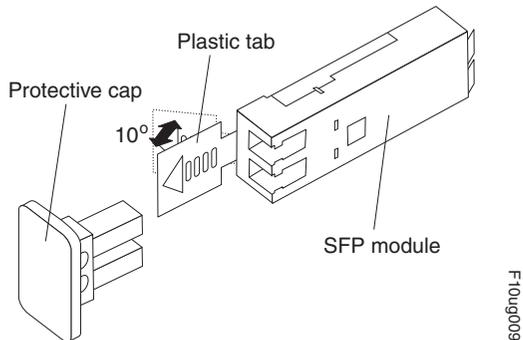

Figure 7. Unlocking the SFP module latch - plastic variety
- For SFP modules that contain plastic tabs, unlock the SFP module latch by pulling the plastic tab outward 10°, as shown in Figure 7.